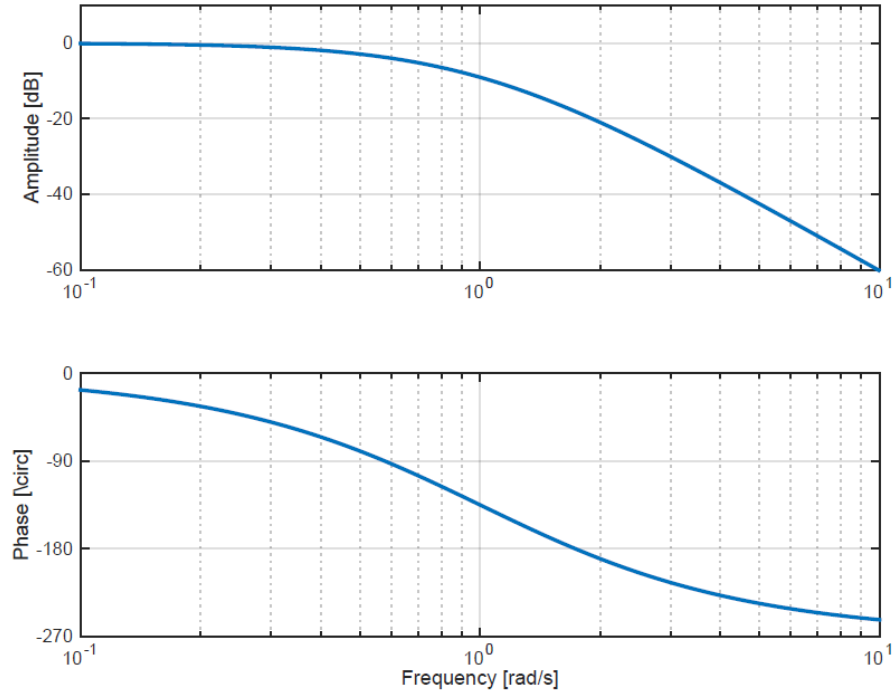

Figure 3: Bode plot of $P_1(s)$
- a) You are given the Bode plot of a plant $P_1(s)$ without controller (see figure 3).